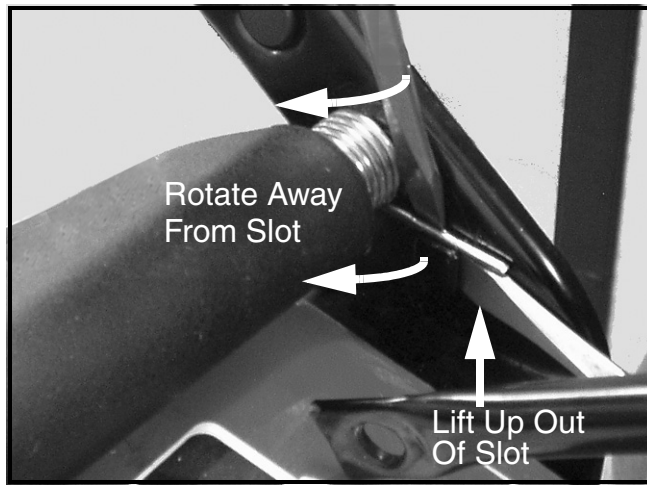

FIGURE 8
17. Refer to Figure 8. Using two thin flat blade screw drivers, unhook the left side rear door torsion spring leg from the handle bracket slot.